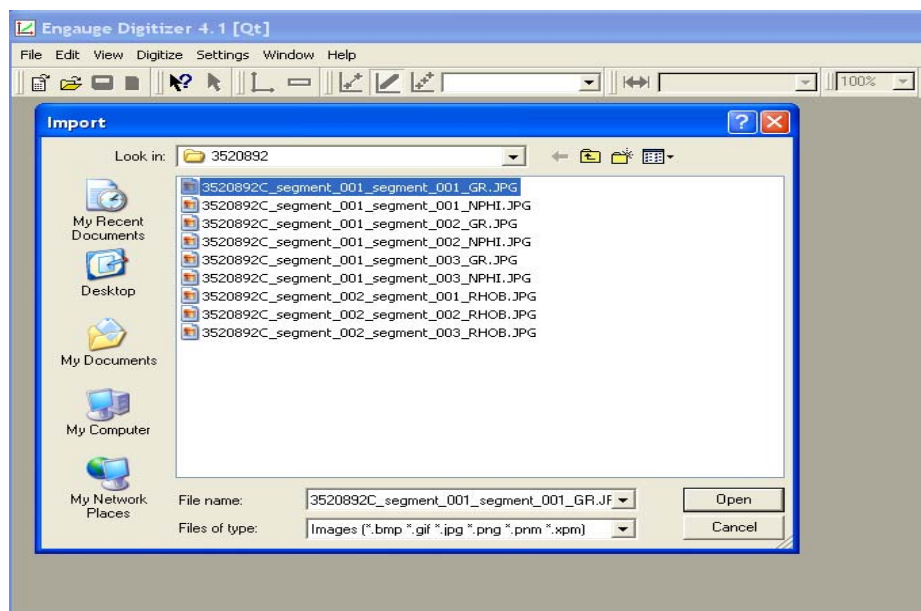

Figure 2, Find your file (ex:3520892C\_segment\_001\_segment\_001\_GR.jpg) and click on Open button. The file will be imported.
b. Find your file, and Click on Open button.(Figure 2)